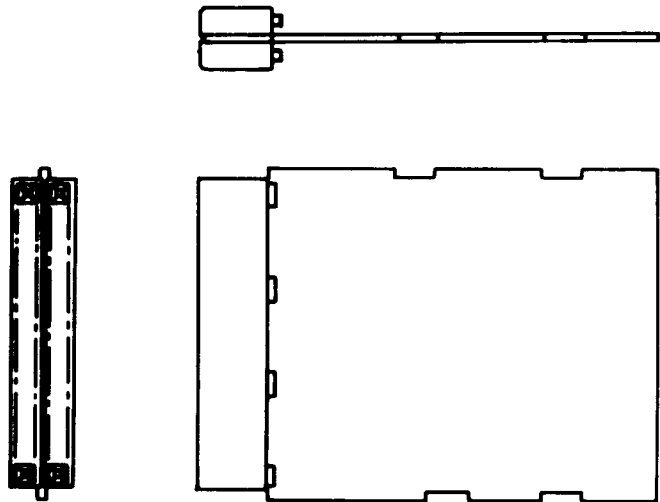

Fig. 15—979-Type Connector
**2.11 979A, B, C, D, E, and F:** The 979-type connectors (Fig. 15) consist of two 963J-10 connectors which are ultrasonically welded to a printed wiring board. The connectors mate with 0.025 inch square terminals on 0.125 inch centers.